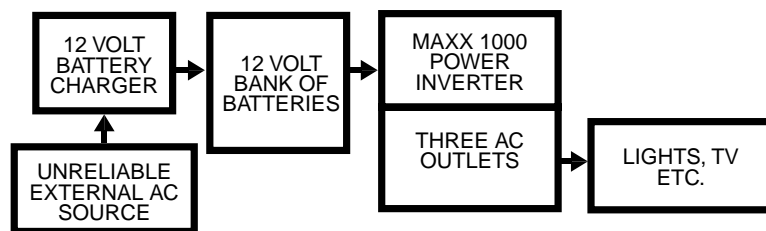

Figure 3 – Uninterruptible Power Supply
Inverters can be operated as uninterruptible power supplies that continuously provide AC even if outside AC is interrupted. This type of application continuously operates the inverter from a battery bank, simultaneously replacing the charge on the battery bank with an AC-powered 12 Volt battery charger. Charging can also be by means of a solar charger system. See *FIGURE 3*. The charger must be selected to operate continuously and to be able to fully replace the charge on the battery as the inverter operates. In this configuration, the battery "floats" on the DC from the charger, not really supplying power or being charged. When outside AC fails, the inverter continues to power the appliances for the life of the useful charge on the battery bank. When outside AC is restored, the batteries are recharged as the inverter continues to operate. Battery recharging must be sized to replace the average current supplied by the inverter plus a little more current. Another requirement is that the battery charging rate cannot exceed 10% of the rated Ampere Hour (AH) rating of the battery bank, otherwise the life of the batteries can be dramatically reduced through overcharging. Most modern battery chargers automatically adjust the charging rate based on the state of charge on the batteries they are charging. For this type of operation, use deep-cycle batteries and avoid charging at too fast a rate.